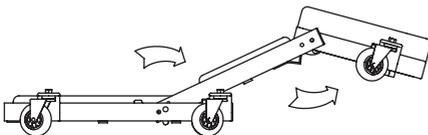

Figure 3 – Creeper configuration
3. Adjust hinged castor brackets so wheels will contact ground properly. Unlock spring-loaded Lock Pins, then reverse steps 1 and 2, as shown in Fig. 3, to convert Creeper Seat into Creeper.